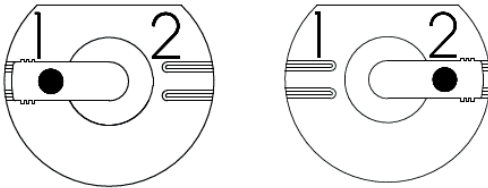

Figure 6.
- select gear speed: I or II position (figure 6)